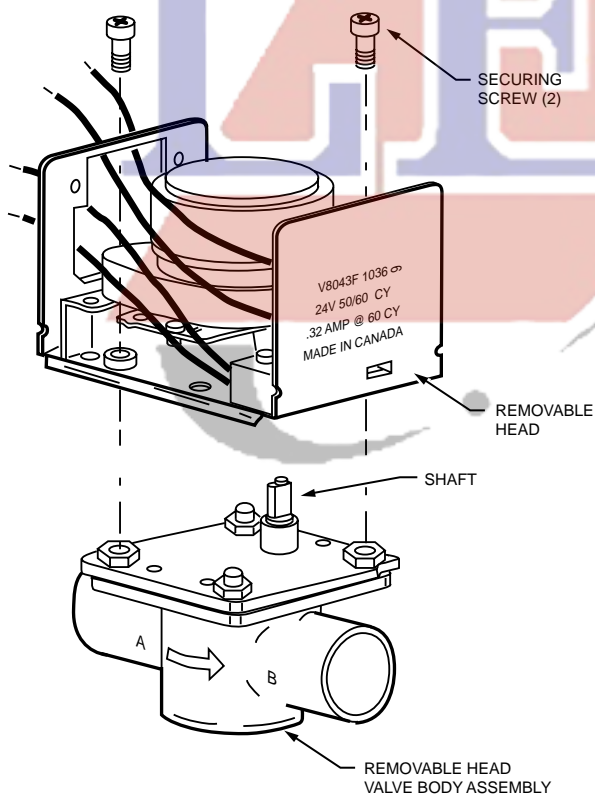

Fig. 12. Install new powerhead.
- ⑥ Install new powerhead (see Fig. 12):
- ⑦ Turn on the power.
- d. Remove the two screws securing the powerhead to the valve body (Fig. 12).
- 4 Install the new power head (see Fig. 12):